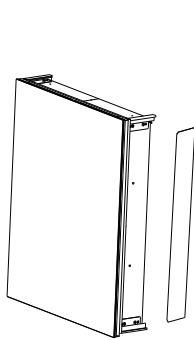

Fig.1
1. 1 Remove the side panels from the cabinet (Fig.1)